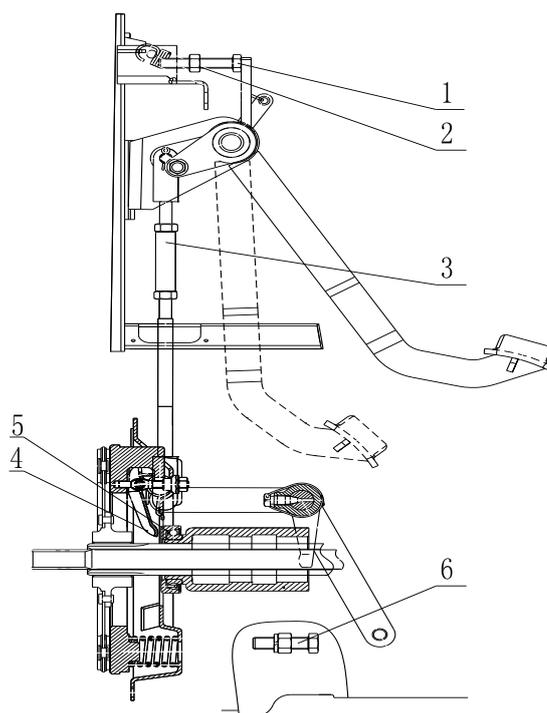

Fig. 5-1 Clutch
- (1) To prevent friction plate from oil stain, frequently unscrew the blowhole plug under the flywheel housing and discharge the oil stain that may leak into the engine and transmission case. If serious leakage is found, the cause shall be found out in time and eliminated. Clean the friction plate with gasoline (or kerosene) if necessary.
- (2) To prevent and avoid wear of friction plate, the clutch shall be maintained and adjusted frequently. Do not casually disengage and engage the clutch in use. When people are disengaging the clutch, the clutch pedal shall be stepped down to the bottom quickly. Never work in the semi-engaged state, so as not to damage the clutch.
- (3) It is strictly prohibited to work when clutch is not adjusted well, which will accelerate the wear of the clutch friction plate and even burn it.
- (4) When installing the clutch, the release bearing 5 (see Fig. 5-1) and the inner cavity of the release bearing seat shall be filled with lithium-based lubrication grease. Check the release bearing 5 for oil shortage when people are disassembling the clutch. In the case of oil shortage, put it into heated molybdenum disulfide lithium-based